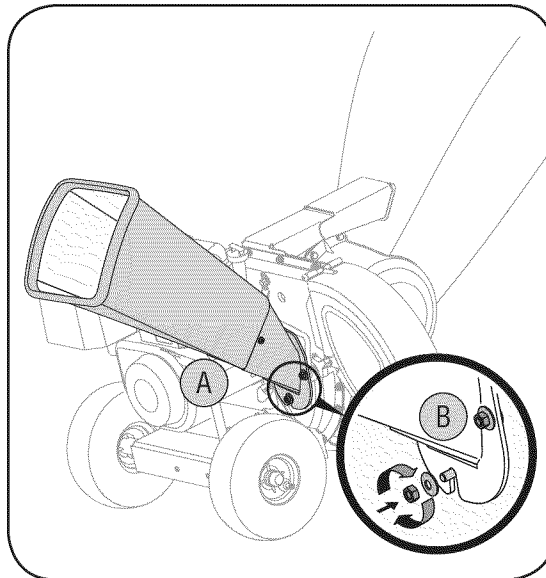

Figure 6
- b. Secure chipper chute with the three cupped washers (cupped side against the chipper chute) and hex nuts previously removed. Do not tighten the nuts at this time. See Figure 6.